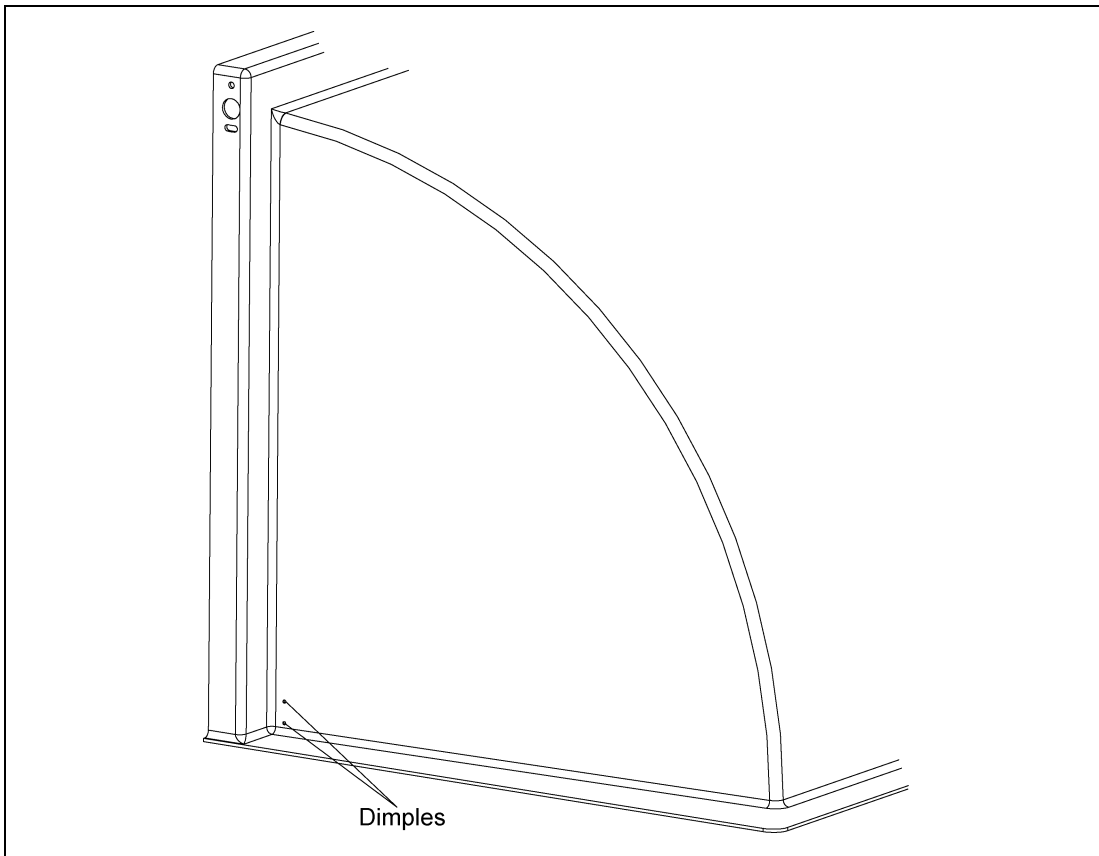

Figure 2A
Step 1: Using the two (2) dimples as a template, drill out 3/8" holes on each side. (See Figure 2A.)